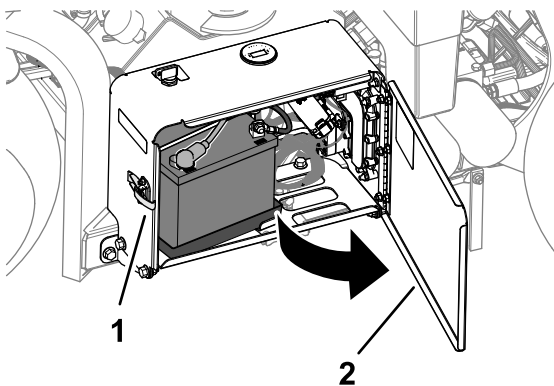

Figure 159
1. Unlatch and open the battery-compartment door (Figure 159).